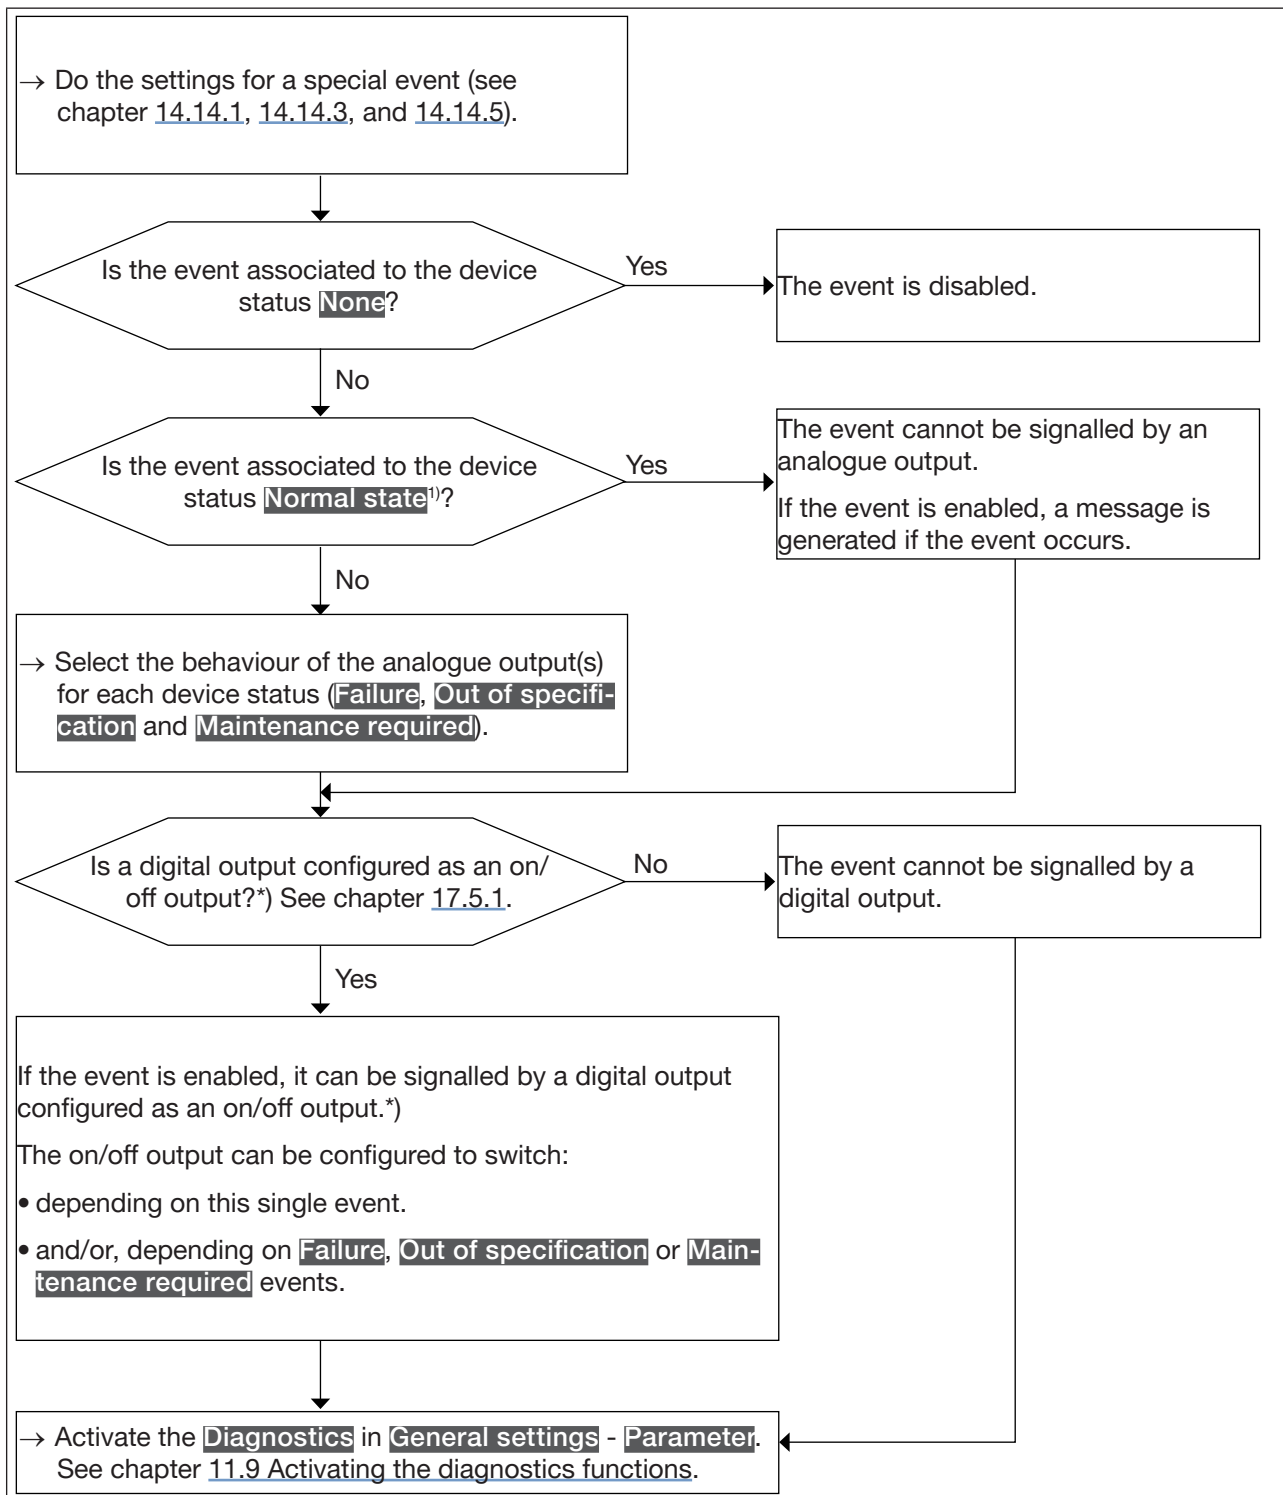

Figure 35: Flowchart: configuration of the diagnostics
- To be informed if a special event occurs in the process, on the sensor or on the electronics*), configure the diagnostics as shown in the flowchart in Figure 35.